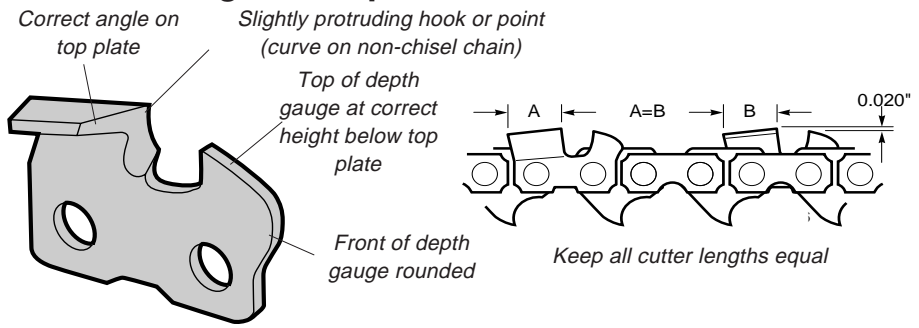

Figure 3
- When carrying by hand, the chain should be pointing backward. See Figure 3.